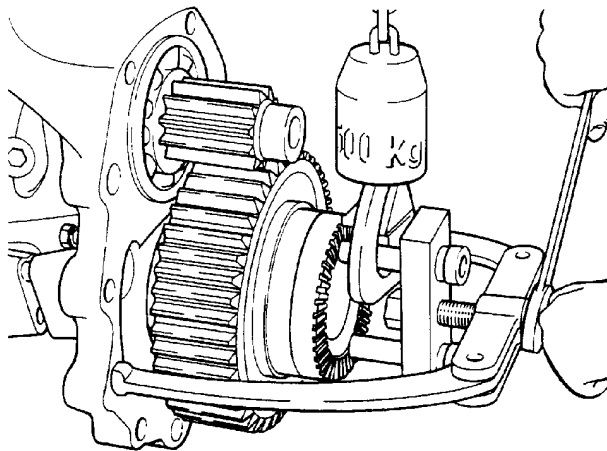

Figure 244 - Hub Gear - Removal
- r. Remove the hub gear with the assistance of the puller and plate (Table 2, Items 25 and 26) (Fig 244).